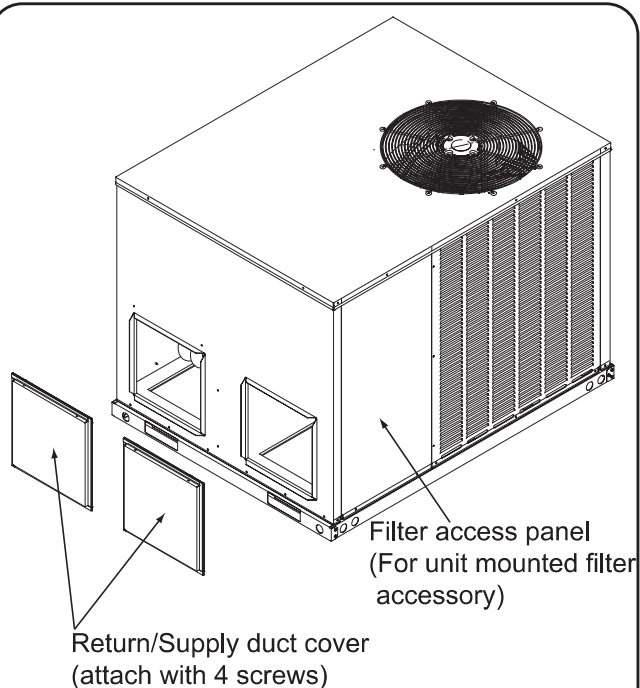

Fig. 3-4 Duct cover installation side mounting
1. Remove 3 screws securing filter access panel and remove filter access panel. For location of filter access panel, see Fig.3-4.
3. Secure covers to the side of the unit using existing screws and those supplied in the parts bag. See Fig. 3-4.